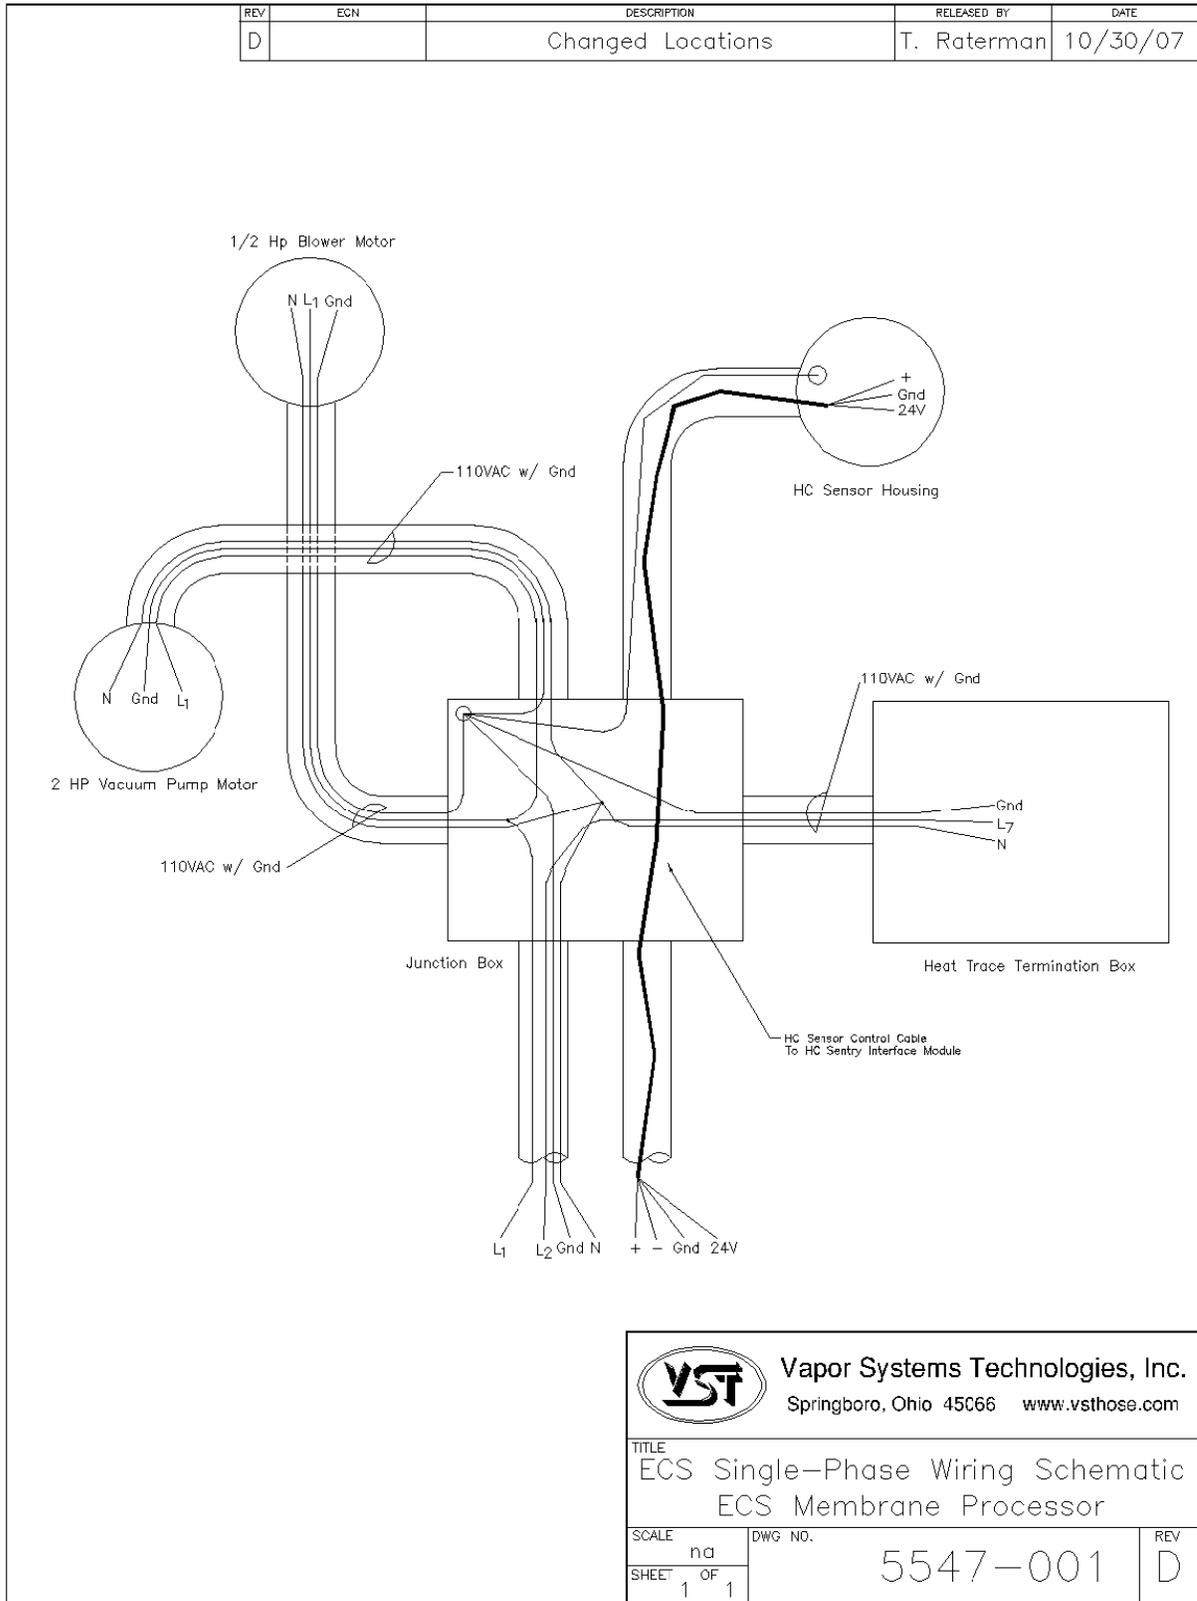

Figure 18: Single-Phase Wiring Schematic
- ▶ **See Figure 18: Section 14 / Page 57.**